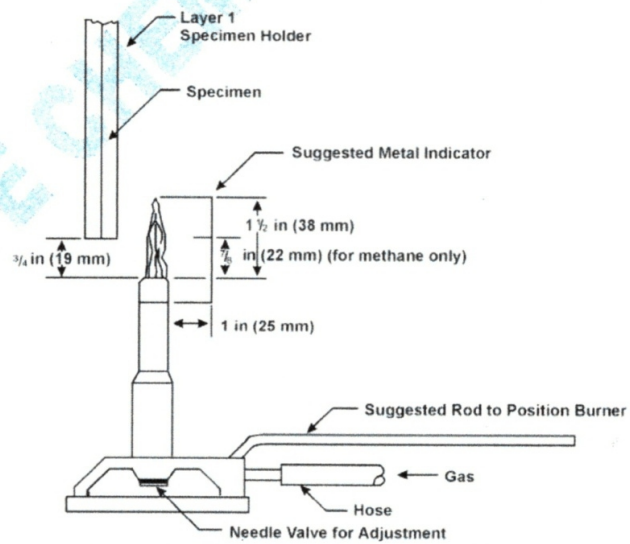

Figure 3. Vertical Test Flame Height
3. Adjust the needle valve on the burner to achieve the proper 1.5 inch (38 mm) flame height in accordance with Figure 3.